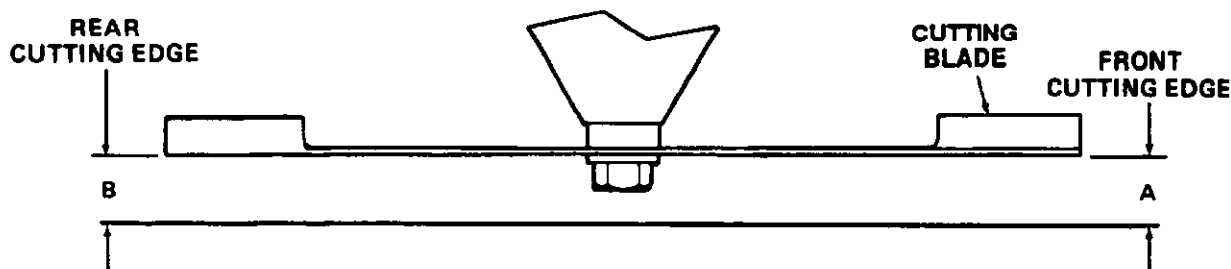

Figure 47
4. Refer to Figure 47. Measure and record the distance from the front cutting edge to the ground (measurement A), and from the rear cutting edge to the ground (measurement B), for each of the outside blades. The front edge of each blade (measurement A) should be equal to its back edge (measurement B).